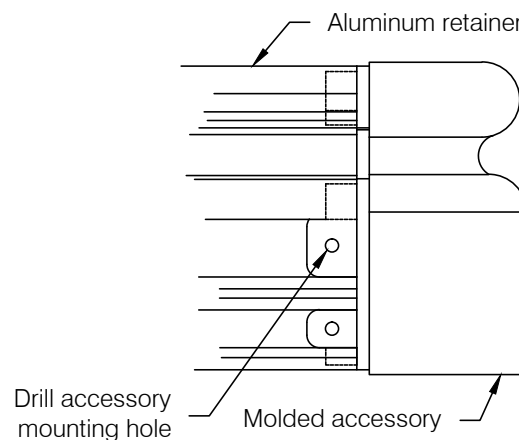

fig 4
- Step 5:** Insert molded accessories into end of retainer, press firmly to ensure molded part is seated squarely against the end of the retainer. Drill accessory mounting holes using the accessory as the template, see **fig 4**.